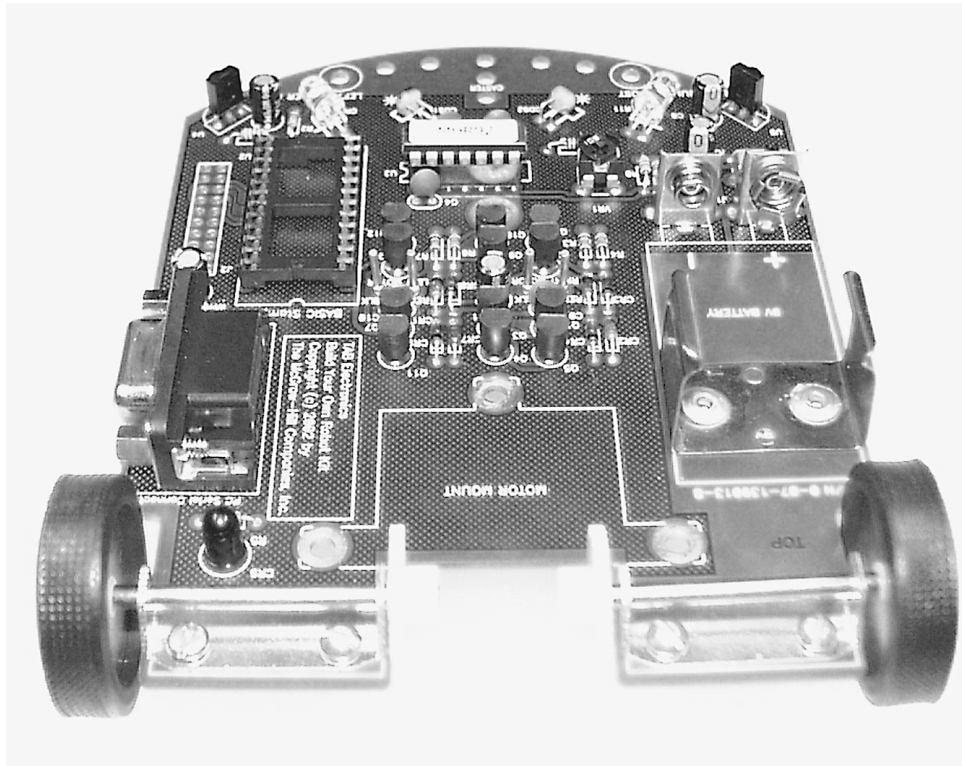

Figure 1-8 Wheel brackets mounted to the robot.
Step 5. Bolt the axle brackets onto the rear end of the robot as shown in Figure 1-8, using the 4-40, ¼” long screws, lock washers, and nuts. Note that the screws are behind the axles at the end of the robot. If you have assembled the two wheel/gear/bracket assemblies identically, pull the wheel off one and reverse the bracket before installing that bracket onto the robot.